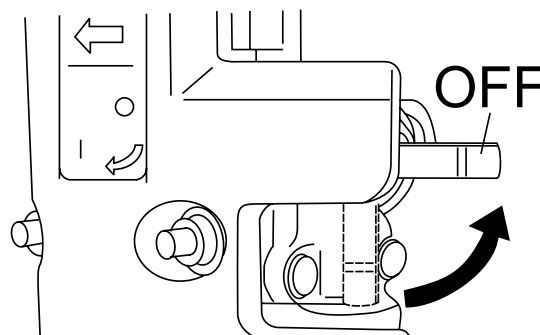

Figure 35. Fuel Valve Lever (OFF)
4. Close the fuel shut-off valve (Figure 35) by moving the fuel valve lever to the **OFF** position.